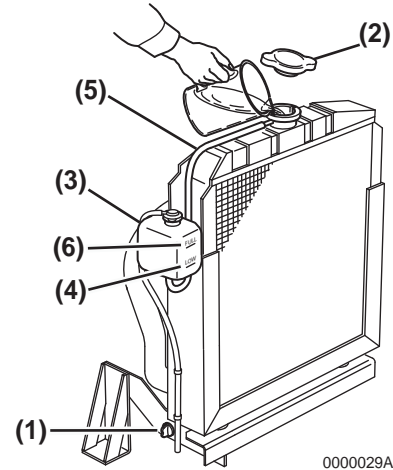
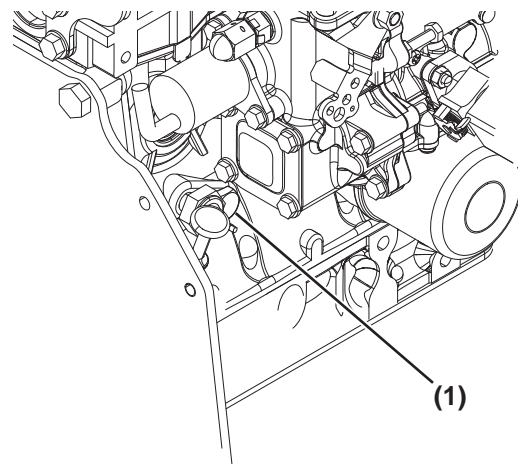

Figure 4-7
Figure 4-8
1. Check to be sure the radiator drain plug is installed and tightened or the drain cock (**Figure 4-7, (1)**) is closed. Also make sure the coolant drain plug (**Figure 4-8, (1)**) in the cylinder block is installed.
3. Remove the radiator cap (**Figure 4-7, (2)**) by turning it counterclockwise about 1/3 of a turn. **WARNING! Scald Hazard. NEVER remove the radiator cap if the engine is hot. Steam and hot engine coolant will spray out and seriously burn you. Allow the engine to cool down before you attempt to remove the radiator cap.**
5. Reinstall the radiator cap (**Figure 4-7, (2)**). Align the tabs on the back of the radiator cap with the notches on the engine coolant filler port. Press down and turn the cap clockwise about 1/3 of a turn. **WARNING! Scald Hazard. ALWAYS tighten the radiator cap securely after you check the radiator. Steam can spray out during engine operation if the cap is loose.**
6. Remove the cap of the reserve tank (**Figure 4-7, (3)**), and fill it to the LOW (COLD) mark (**Figure 4-7, (4)**) with engine coolant. Reinstall the cap.
7. Check the hose (**Figure 4-7, (5)**) that connects the reserve tank (**Figure 4-7, (3)**) to the radiator. Be sure it is securely connected and there are no cracks or damage. If the hose is damaged, engine coolant will leak out instead of going into the reserve tank.
8. Run the engine until it is at operating temperature. Check the level of engine coolant in the reserve tank. When the engine is running and the engine coolant is at normal temperature, the coolant level in the tank should be at or near the FULL (HOT) mark (**Figure 4-7, (6)**). If the engine coolant is not at the FULL (HOT) mark (**Figure 4-7, (6)**), add additional engine coolant to the reserve tank to bring the level to the FULL (HOT) mark.